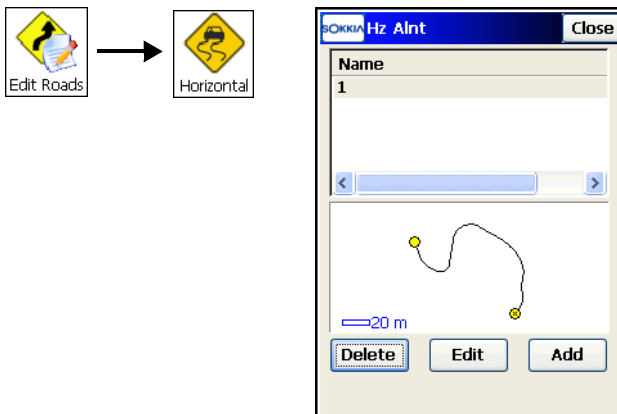

Figure 7-4. Horizontal Alignment
1. To edit the horizontal alignment, in the *Hz Alnt* screen (Figure 7-4), either double-tap the horizontal alignment or highlight it and tap the **Edit** button.